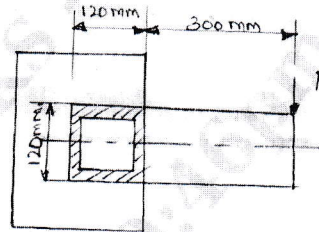

Fig. Q8 (b)
b. A bracket supporting load P is welded to a plate by a four fillet welds of size 6 mm. What is the max. load that may be carried by the joint shown in Fig. Q8 (b) if the stress in the joint is 96 MPa.